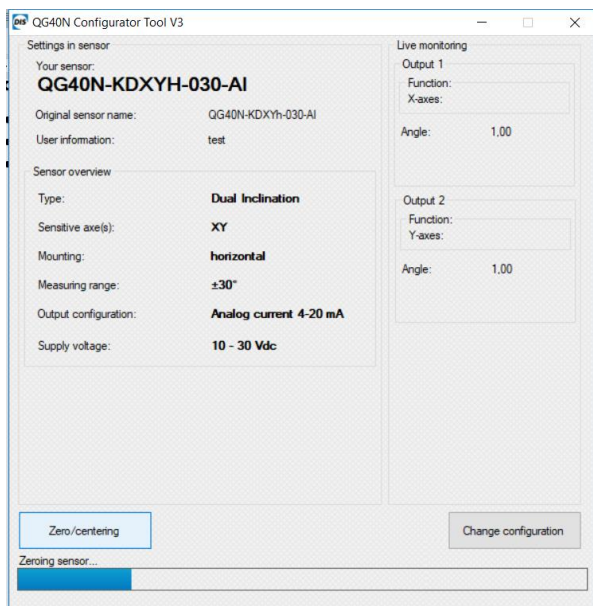
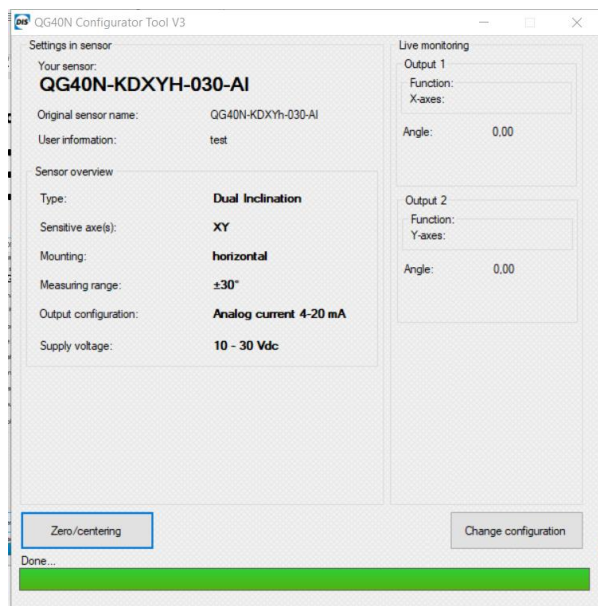

Figure 5. Sensor zeroing
Figure 6. Zero position is set
- The progress bar shows the status (Figure 5.). When the zero position is set, you'll see the output is changed to 0.00 on the live monitoring (Figure 6.).